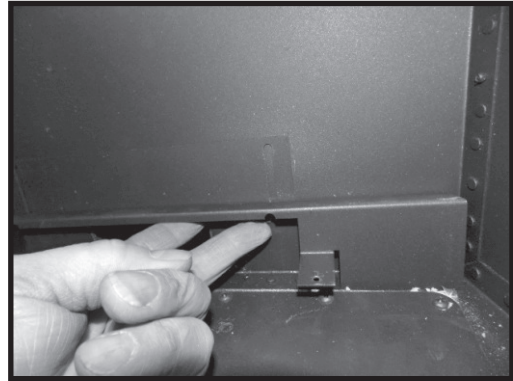

Figure 52: Removing back ledge.
5. Remove two screws which hold the back ledge (Figure 52) in place and remove.